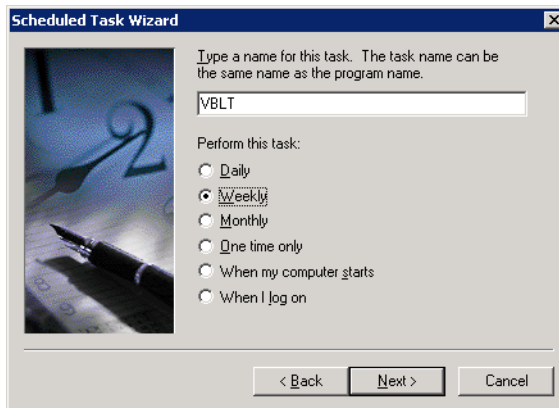

Figure H-3 Scheduled task wizard
4. Select a name for the task and scheduled period (Daily, Weekly, Monthly, etc.) from the dialog shown in figure H-3.